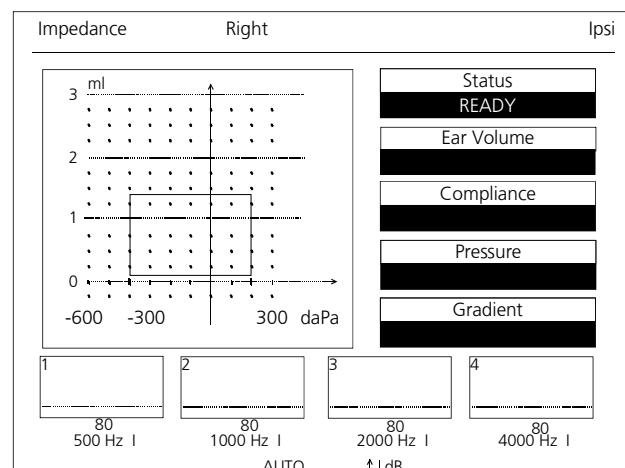

Figure 5
In figure 5 the initial empty measurement screen is shown. The measurement screen shows actual settings, test results and the graphical display of the tympanogram and reflexes.
The top line shows from left to the right the type of test (in example figure 5 Impedance), the selected test ear left or right and the selected reflex test "ipsi", "contra" or "Tympanogram" if no reflex test is selected.
At the bottom line in figure 5 the word "AUTO" and \updownarrow dB Scale is shown. It means that the reflex test level increases automatically until a reflex was found or the maximum level is reached. With the cursor up button ⑫ or down button ⑩ the test level can be changed to a fixed level. The dB values below the boxes change accordingly. It is possible to have fixed levels from 70 dB to 100 dB and AUTO.